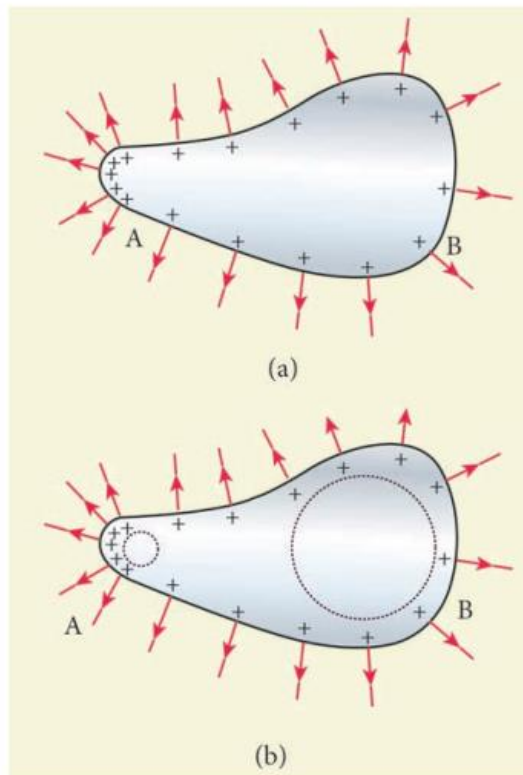

Figure 1.61 Action of points or corona discharge
- Consider a charged conductor of irregular shape as shown in Figure 1.61 (a).
- The end of the conductor which has larger curvature (smaller radius) has a large charge accumulation as shown in Figure 1.61 (b).